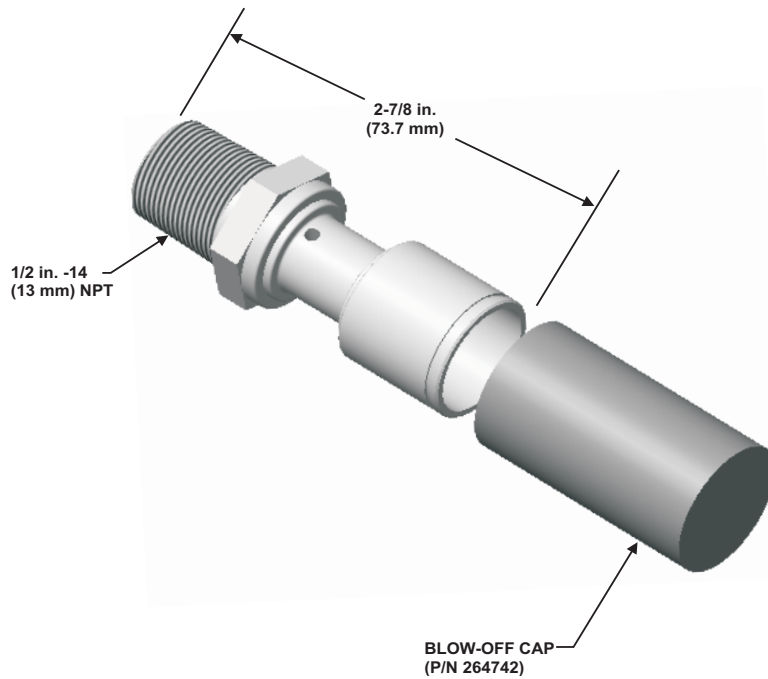

Figure 2-9. Duct/Plenum (DP) Nozzle, P/N 83-100006-001
The Duct/Plenum (DP) Nozzle, shown in Figure 2-9, is designed to discharge dry chemical throughout an exhaust duct or plenum.